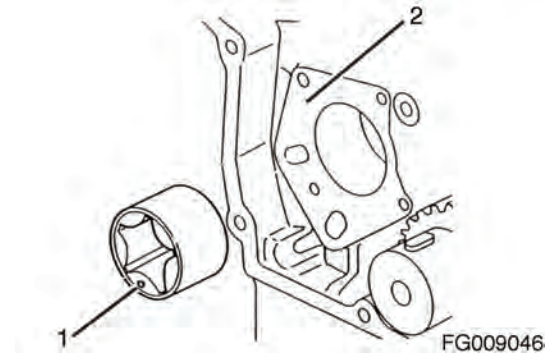

Figure 330
2. Reinstall the outer rotor in the gear case housing. The punch mark (1, Figure 330) on the end of the outer rotor must face away from the gear case housing (2, Figure 330).